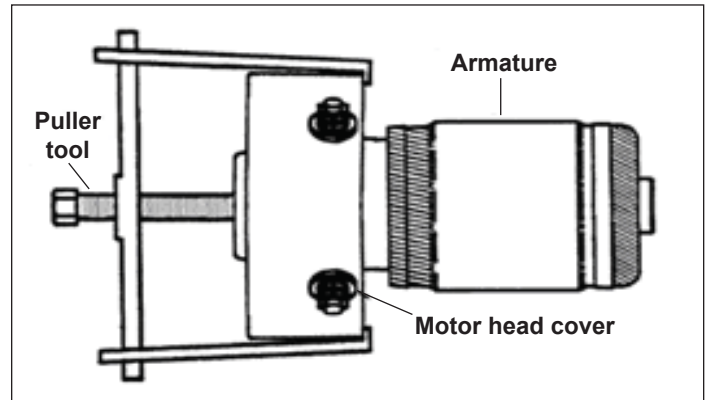

Figure 10-4. Removing Motor Head
- Place puller around the motor head. Use the center of the shaft to locate puller. See Figure 10-4.